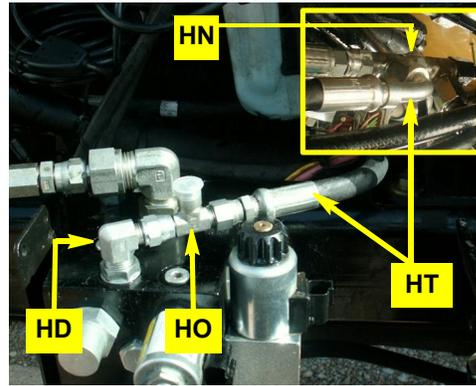

Figure 4d: Tank hose connected at steering block and (inset) to run-tee added to tank line
d. Connect the straight end of tank hose **HT** to the open 'T' end of run-tee **HO** installed at the hydraulic steering block (on **HD** - Figure 4d) and the elbow end to the stem of run-tee **HN** installed in the machine's tank line (Figure 4d inset).